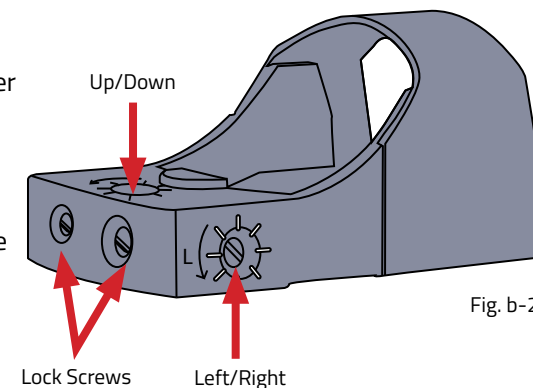

Fig. b-2
3. The DTRO has two adjustment screws, and two lock screws. The top screw adjusts the up/down and the right side screw adjusts the left/right. (Fig. b-2)